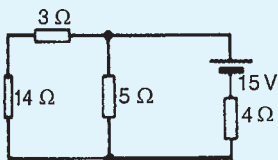

Figure 13.49
1. Use Thévenin's theorem to find the current flowing in the $14\ \Omega$ resistor of the network shown in Fig. 13.49. Find also the power dissipated in the $14\ \Omega$ resistor. [0.434 A, 2.64 W]